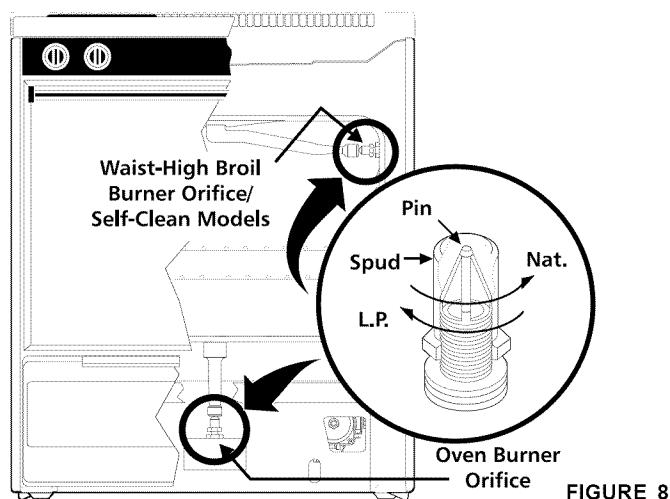

FIGURE 8
- Locate the oven burner spud (See Figure 8).
- Locate the broiler burner spud and turn down until snug against the LP/Propane metering pin (approximately 2-1/2 turns). Do not over tighten (See Figure 8).